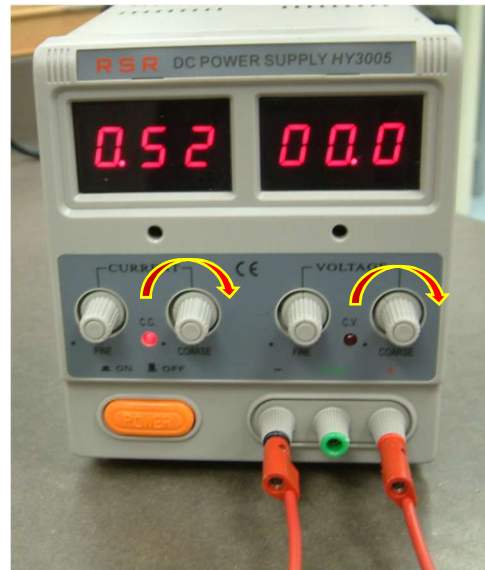

Figure 7
2. Before connecting anything to the source turn the “course” current and voltage knobs clockwise just a bit (e.g. quarter turn), see Figure 7.